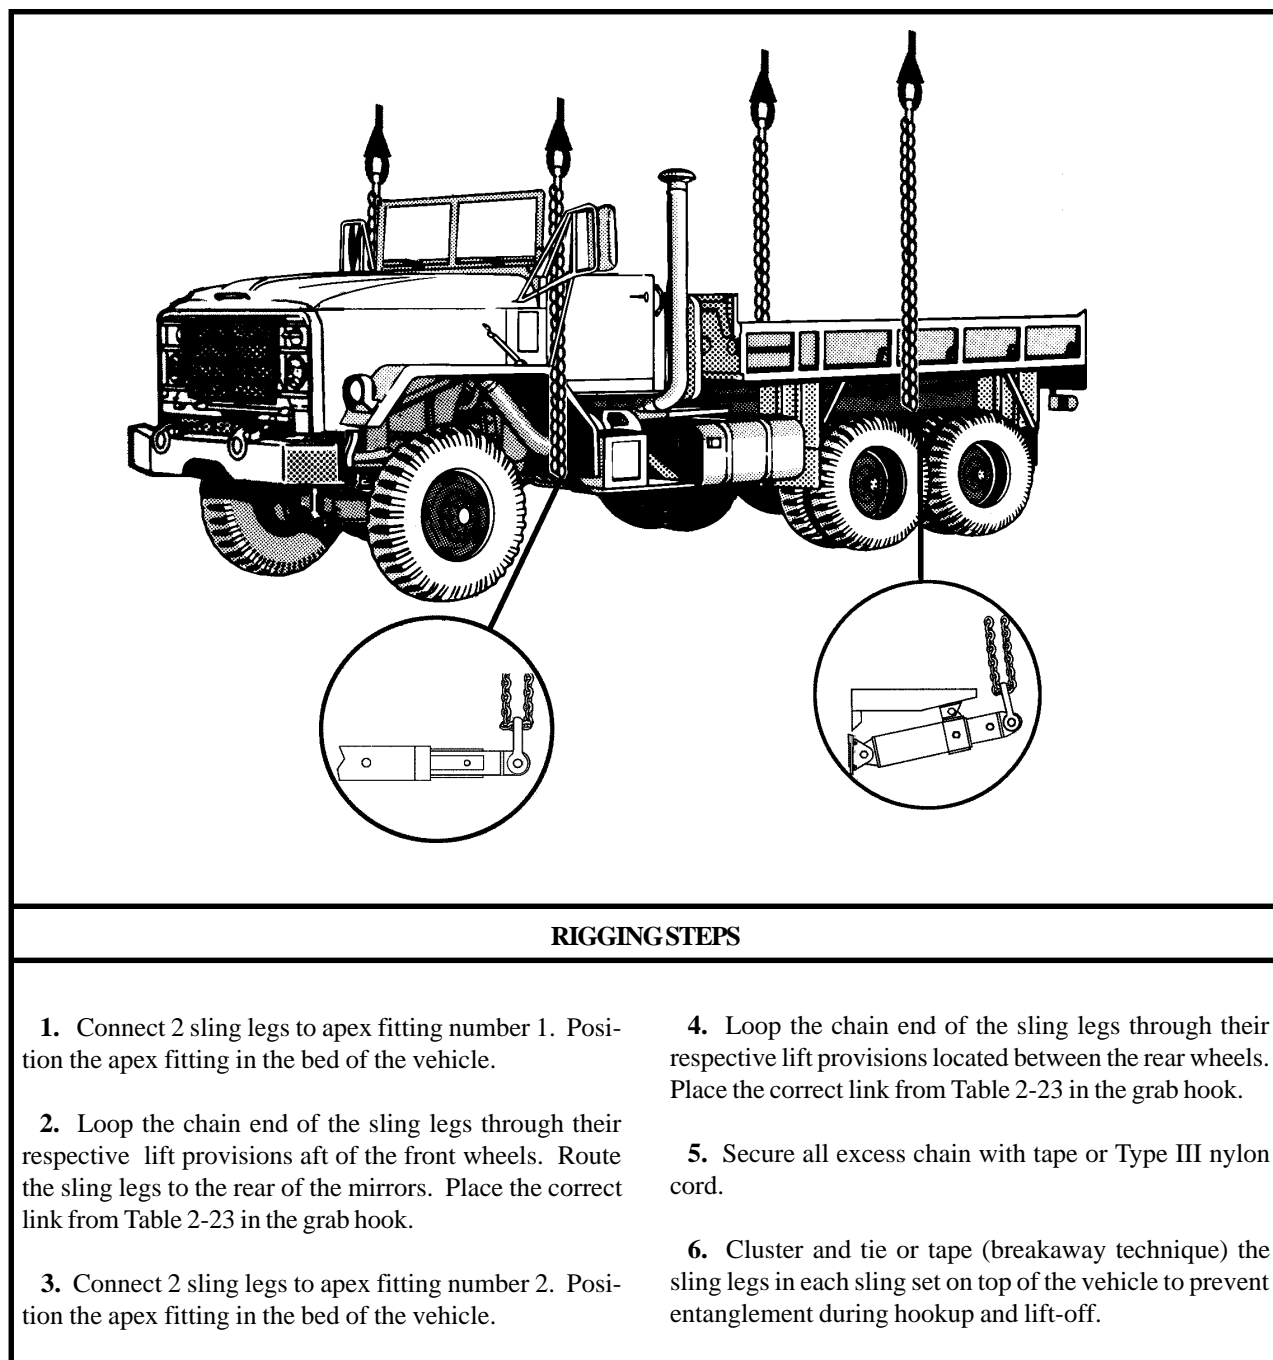

Figure 2-22. Truck, Cargo, 5-ton, M813A1/M923/M925
(2) **Rigging.** Rig the load according to the steps in Figure 2-22.